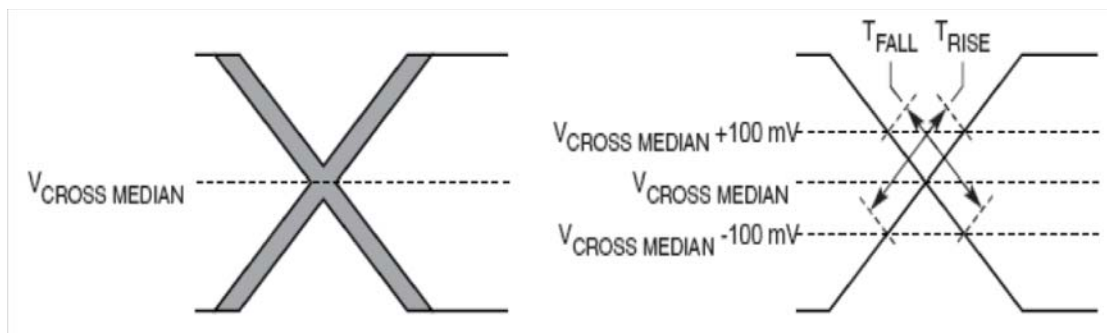

Figure 14. Single-Ended Measurement Points for Rise and Fall Time Matching
- Matching applies to rising edge for SD\_REF\_CLKn and falling edge rate for  $\overline{\text{SD\_REF\_CLKn}}$ . It is measured using a 200 mV window centered on the median cross point where SD\_REF\_CLKn rising meets  $\overline{\text{SD\_REF\_CLKn}}$  falling. The median cross point is used to calculate the voltage thresholds that the oscilloscope uses for the edge rate calculations. The rising edge rate of SD\_REF\_CLKn should be compared to the falling edge rate of  $\overline{\text{SD\_REF\_CLKn}}$ ; the maximum allowed difference should not exceed 20% of the slowest edge rate. See Figure 14.